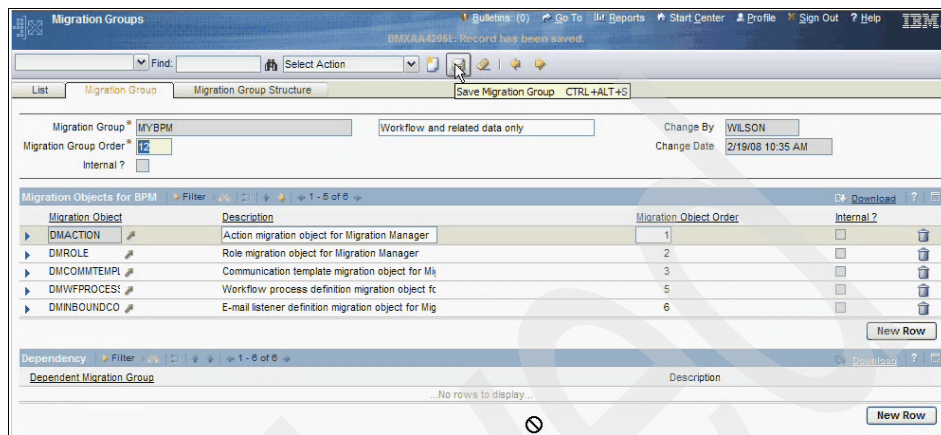

Figure 8-18 MYBPM migration group
9. Save the new MYBPM migration group by clicking the **Save** button (the little disk) in the button bar in your window. The MYBPM migration group should now look like the group shown in Figure 8-18.